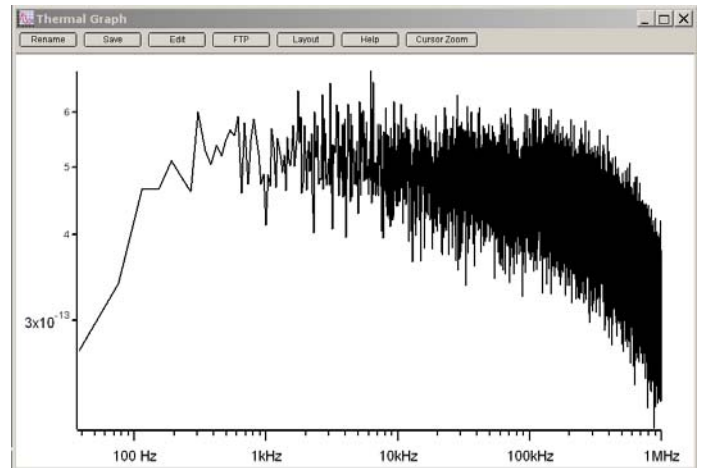

Figure 5.6: Thermal tune of SLD spot on back of probe chip - no apparent cantilever resonant frequency.
- Figure 5.6 (right) shows an example of a thermal tune when the SLD was on the back of the probe chip, yet a reasonable Sum voltage was displayed in the S&D meter.